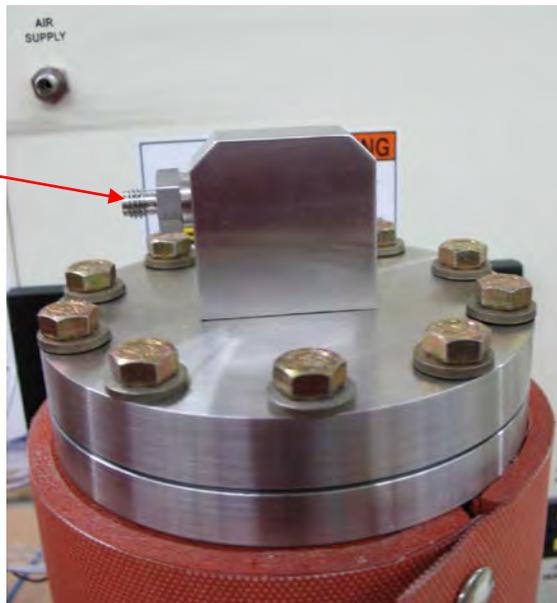

Figure H7 – Reservoir #1 top orientation
7. Place the reservoir assembly without the sight glass (supply reservoir) in the original reservoir location using the locator pins. This reservoir is referred to as reservoir #1. Install the reservoir #1 top so that the sight glass side connector for pressure is facing to the left (figure H7).